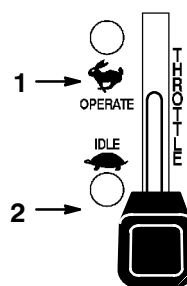

Figure 6
1. Move the throttle lever to “SLOW” (Fig. 6).